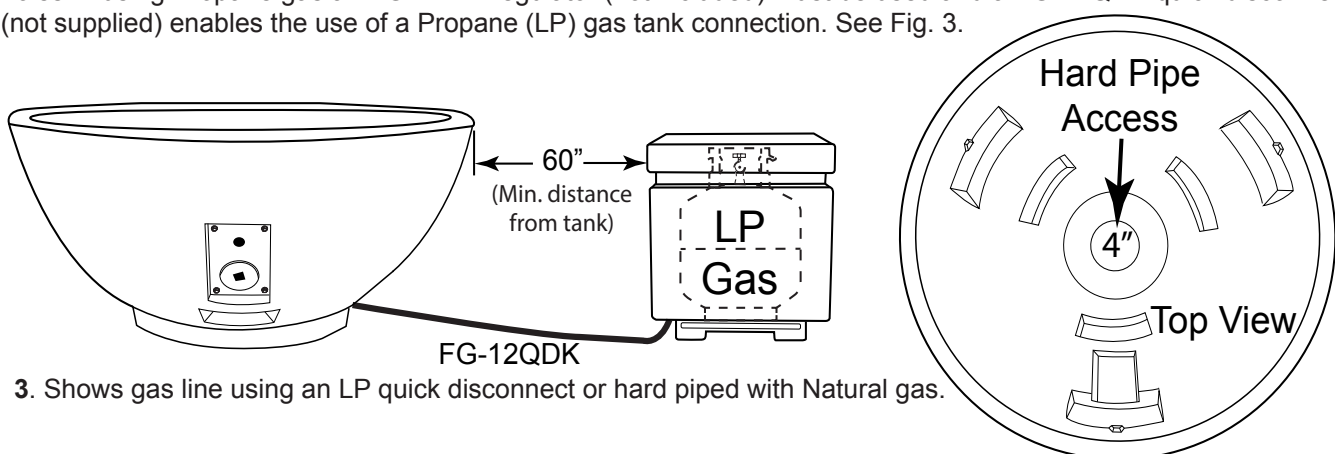

Fig 3. Shows gas line using an LP quick disconnect or hard piped with Natural gas.
The Sanctuary 2 and 3 can be plumbed with either Natural or Propane (LP) gas. See Fig. 3. If you choose to run hard pipe to Sanctuary models, enter through center (bottom) of the bowl; protrude pipe no higher than 6" above ground level.
1. Do not place an LP tank inside any fire feature enclosure. Locate all propane (LP) tanks outside the enclosure inside an approved separate enclosure a minimum of 60" from the Sanctuary Series. Flex line can run through any vent holes. If using Propane gas an FG-LPRK regulator (not included) must be used and a FG-12QDK quick disconnect kit (not supplied) enables the use of a Propane (LP) gas tank connection. See Fig. 3.